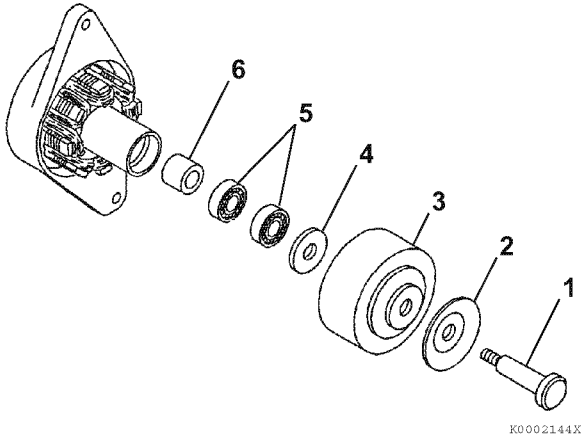

Figure 12-28
3. Reinstall the front bearings (Figure 12-28, (5)) and spacer (Figure 12-28, (6)).
4. Reinstall the flat washer (Figure 12-28, (4)), flywheel (Figure 12-28, (3)), pulley half (Figure 12-28, (2)), and through bolt (Figure 12-28, (1)).